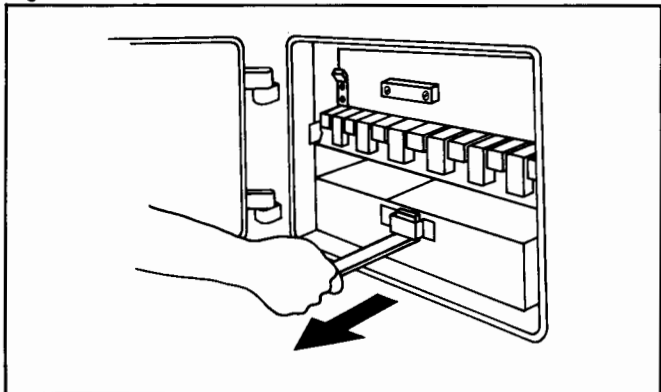

Fig. 4
- Remove ashpan and empty (Fig. 4).
Open the ashpit door to give access to the ashpan which must be emptied regularly (See Fig. 4).